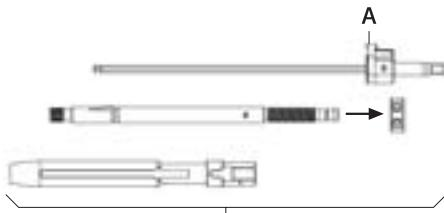

Fig. 2
- Dismantle reduction lever **4**, see Fig. 2: Press button **A** firmly and remove screwdriver FW234R.